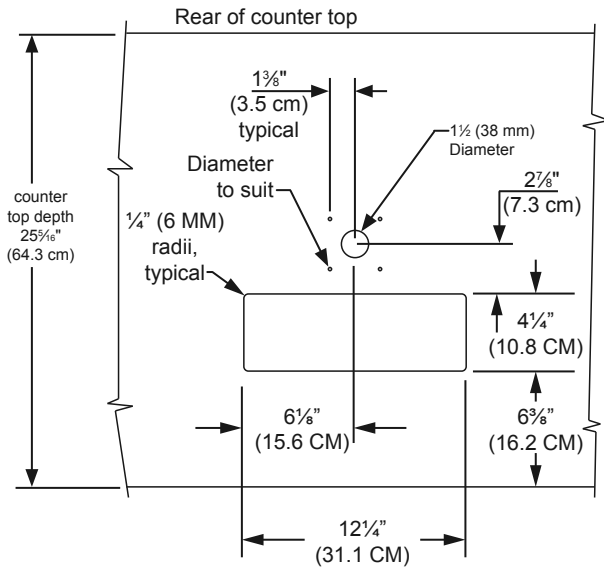

Figure 22
The cutout dimensions shown in Figure 22 are based on a 25 $\frac{5}{16}$ " (64.3 cm) deep counter top. Your counter top may be different than this and require other front to back dimensioning. Refer to the product dimensions on page 8 when determining the required dimensions.
4. If you are installing your keg refrigerator under a counter you will need to drill 5 holes in the counter top to mount the tower. The first hole is a 1 1/2" diameter hole located at the center of the tower for the beer line, locate approximately 13 1/2" (34.3 cm) from the front edge of the counter top (based on a counter top depth of 25 $\frac{5}{16}$ "). Next drill the 4 tower mounting holes per the dimensions in Figure 22. The hole diameter is dependent on the counter top material and if screw anchors are required. The screws supplied are in the literature pack and are a #10 x 1" type AB stainless steel screw. Mark and cut the rectangular cut out for the drain sump. After the holes are drilled and the keg refrigerator is in place under the counter top feed the beer line through the tower gasket, the 1 1/2" hole in the counter top and the hole in the top of the keg refrigerator. Mount the tower to the counter top with the 4 screws provided.